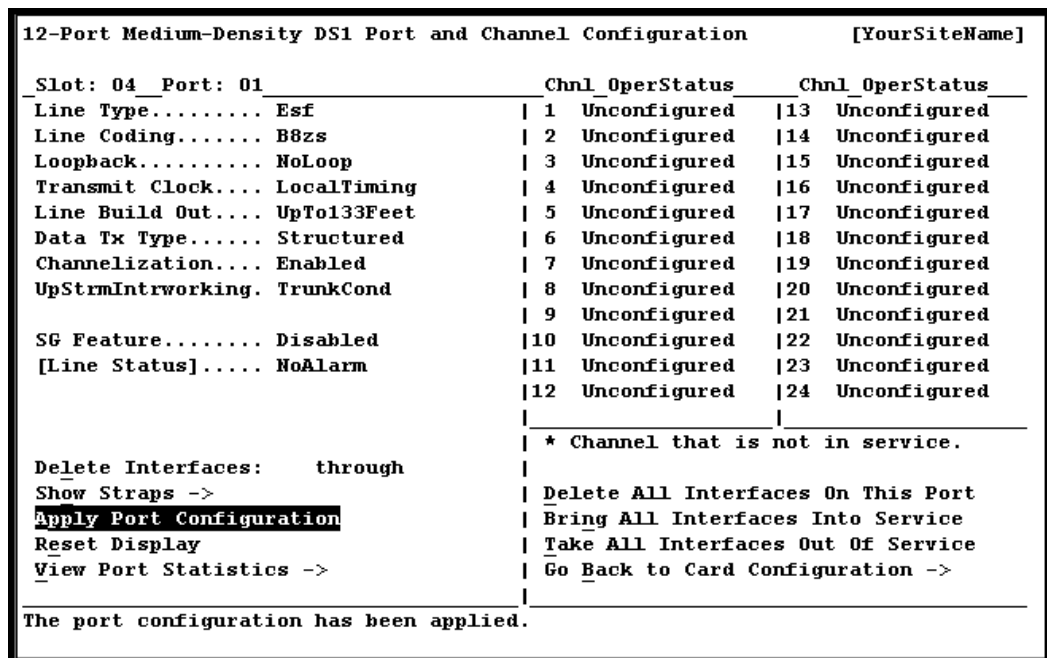

Figure 3-8. 12-Port Medium-Density DS1 Port and Channel Configuration Window (Channelization Enabled)
- 1 Select **1 Unconfigured** on the 12-Port Medium-Density DS1 Port and Channel Configuration window (see Figure 3-8).
- 10 To view the strapped DS0s and their associated channels at any time, select the **Show Straps** command on the 12-Port Medium-Density DS1 Port and Channel Configuration window (see Figure 3-8). The 12-Port Medium-Density DS1 DS0s Strap Display window (see Figure 3-10) is displayed.
To view statistics for a port, from the 12-Port Medium-Density DS1 Port and Channel Configuration window (Figure 3-8), select the **View Port Statistics** command. The 12-Port Medium-Density DS1 Port Statistics window (see Figure 3-11) is displayed.